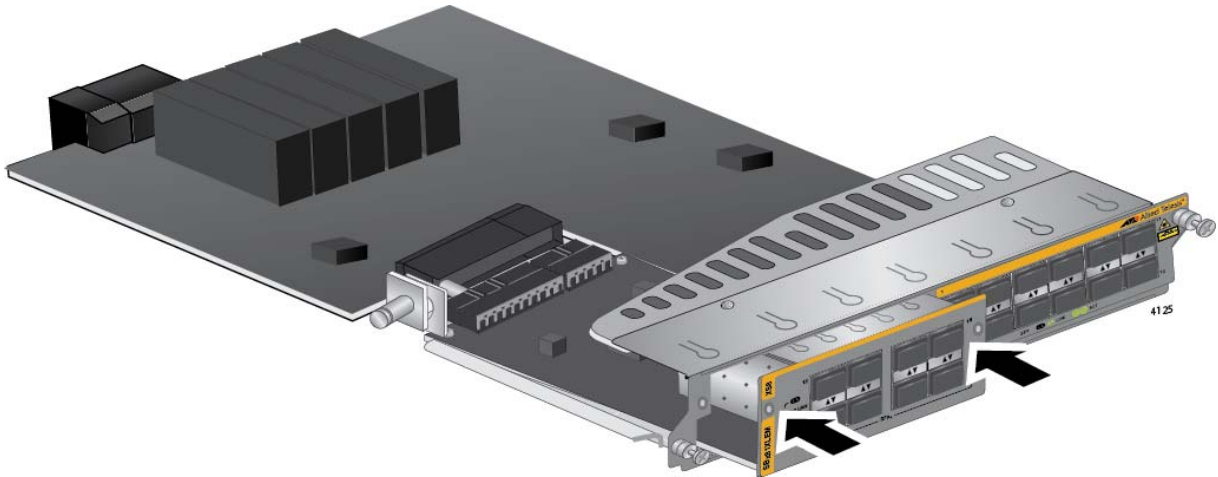

Figure 78. Seating the Expansion Module on the Connector in the AT-SBx81XLEM Line Card
- When the expansion module makes contact with the connector inside the line card, gently press on both sides of the faceplate to seat the module on the connector. Refer to Figure 78 on page 141. The module is fully installed when its faceplate is flush against the faceplate of the AT-SBx81XLEM Line Card.